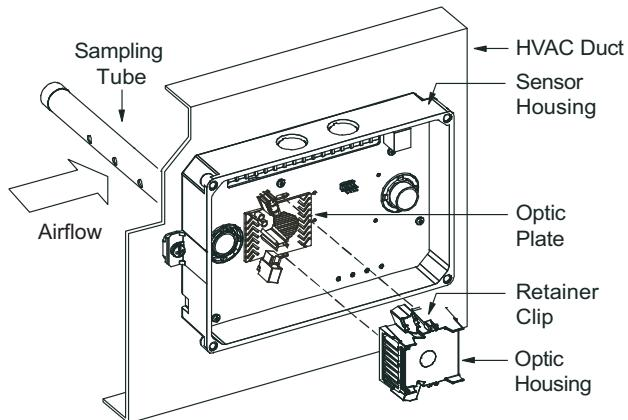

Fig. 51 – Sensor Cleaning Diagram
1. Disconnect power from the duct detector then remove the sensor's cover. See Fig. 51.